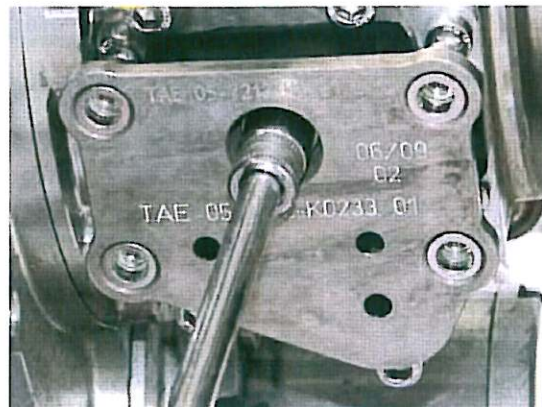

Figure 16
13. Tighten up the screw (item 6) at the vibration isolator to the specified tightening torque. See Figure 16.